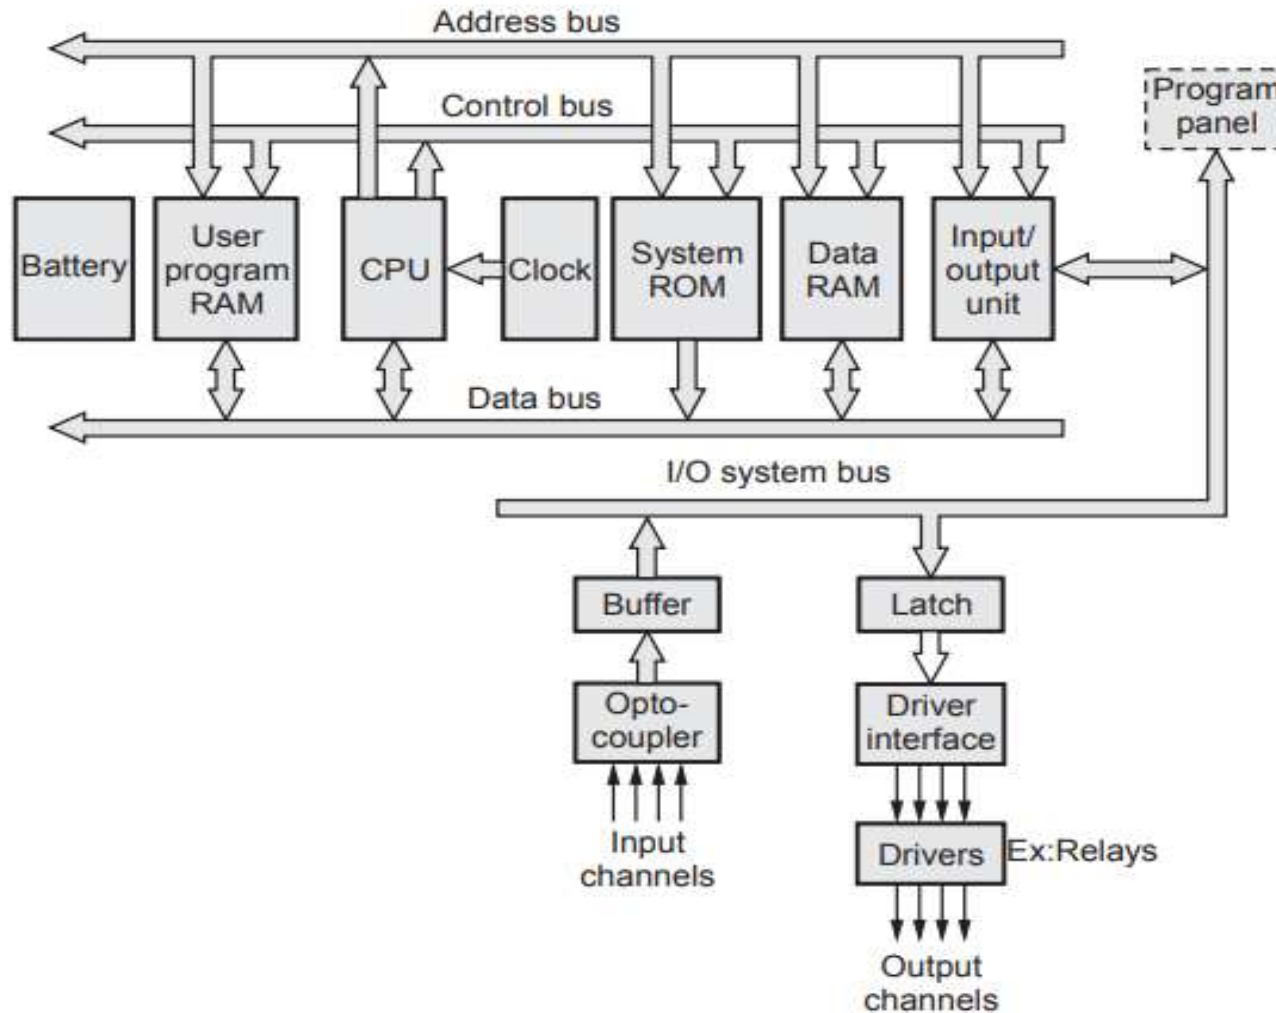

Fig. 4.4.1 Internal architecture of a PLC system
- Fig. 4.4.1 shows the internal architecture of a PLC system.